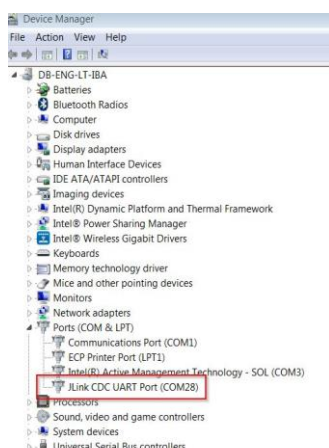

Figure 8: Device Manager Port
The COM port number can be found in the Windows Device Manager (Control Panel > Device Manager > Ports (COM & LPT)) as shown in **Figure 8**.
2. Use the Windows Device Manager to verify that the host discovered the **COM28** serial port in this case. See **Figure 8**.